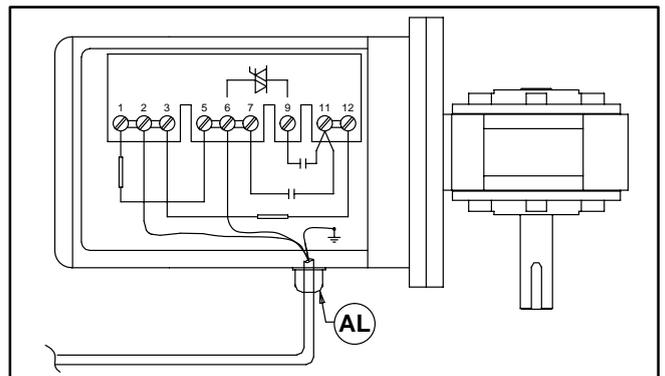

Figure 20
- Record wire colors on terminals 2, 6 and ground (\perp) (Figure 20). Loosen terminals 2, 6 and ground and remove wires.
- Loosen cord grip (AL of Figure 20) and remove cord.